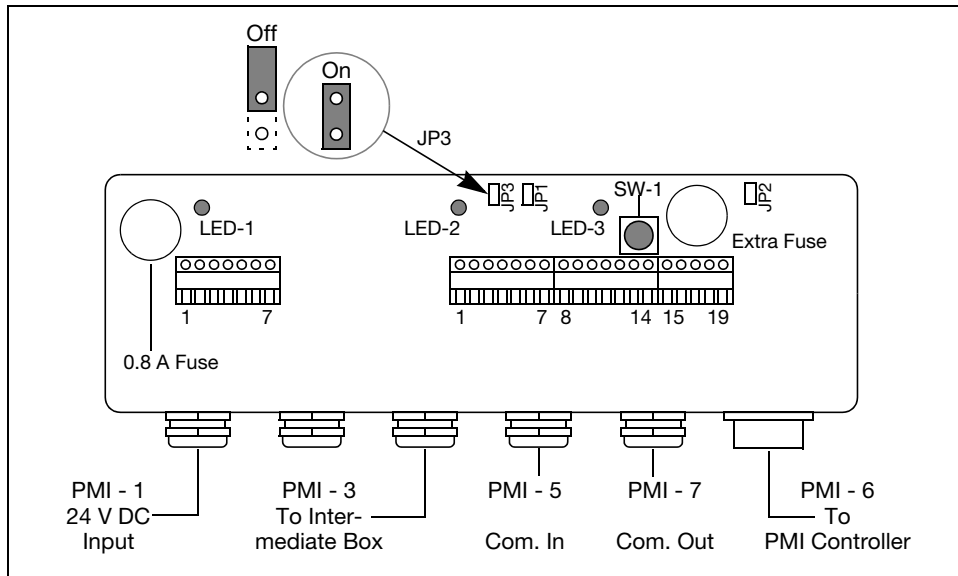

Fig. A-11 Layout of the PMI System's Junction Box
The engine address number should match the SW1 address switch setting in the Junction Box for the engine to be measured – see Fig. A-11.
If the 'Communication Log' indicates that the TDC pulses are missing, check that the jumper JP3 in the Junction Box is set to 'On' as shown in Fig. A-11. If this is not successful, check the trigger system as described in section A.4.3 to A.5.3 or in the Installation Guide.
'On'	If 5 V is not present, check whether it is available between terminals no. 12 & 13 of the Junction Box. See Fig. A-11 .
3. If the 'Power On' indicator is not lit, remove the lid of the Junction Box to which the PMI Controller is connected and note the status of the indicator lights on the printed circuit board in the box. See Fig. A-11.